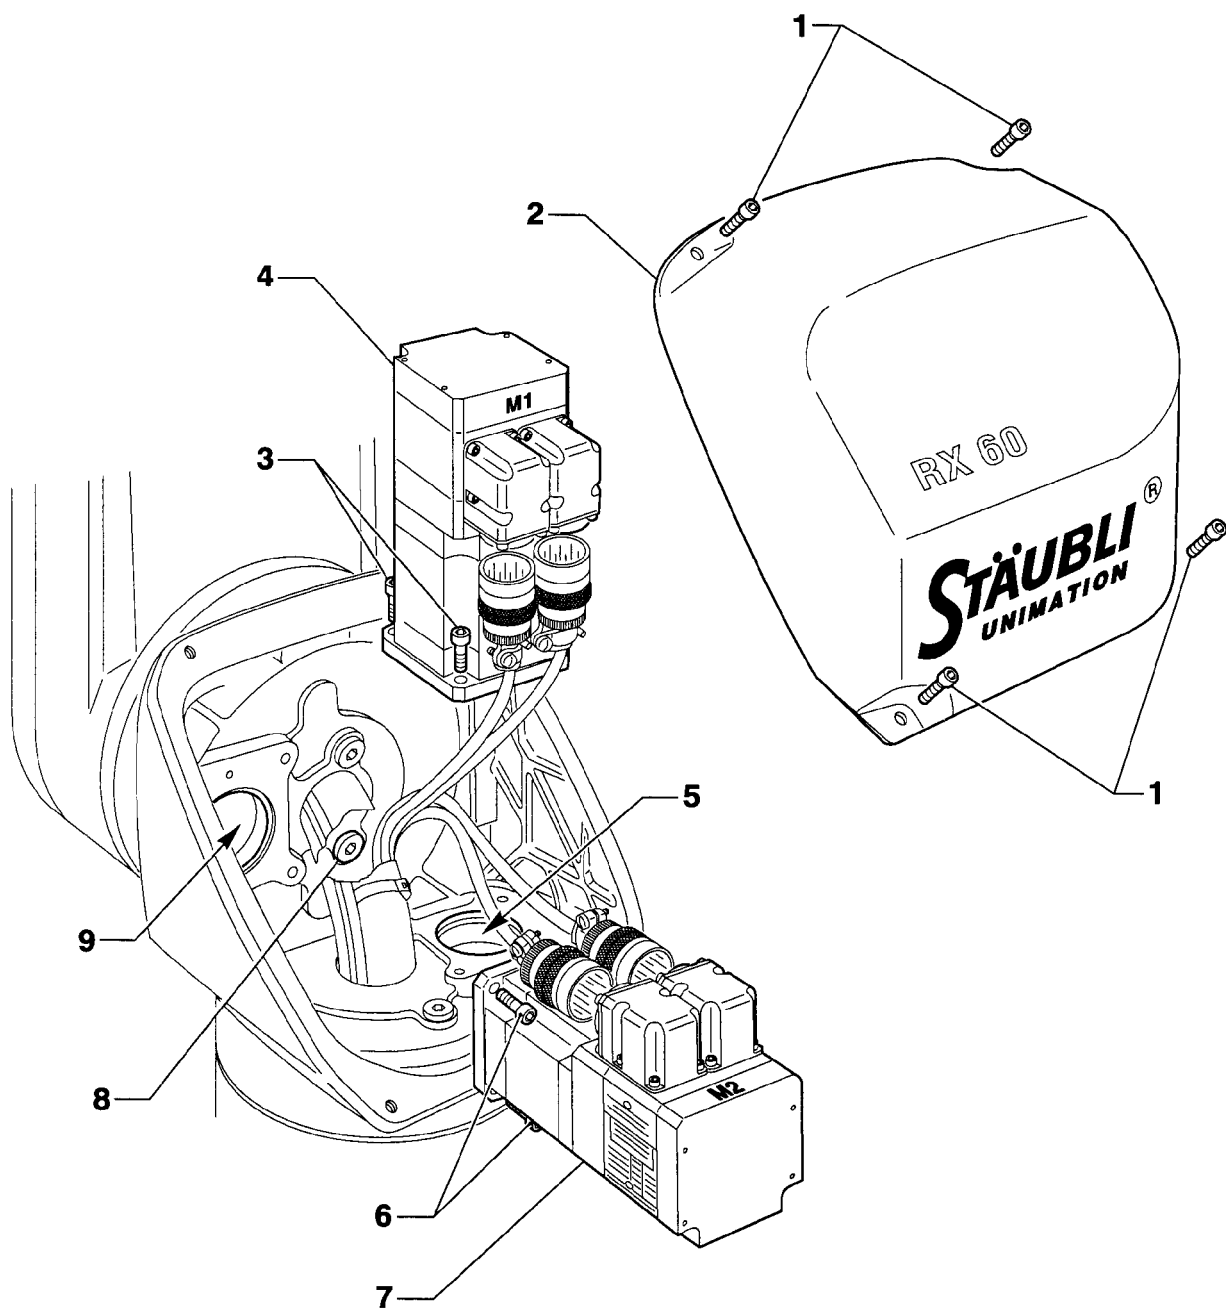

Figure 5.1
5.1.1. JOINT 1 TRANSMISSION CASING (figure 5.1)
5.1.2. JOINT 2 TRANSMISSION CASING (figure 5.1)